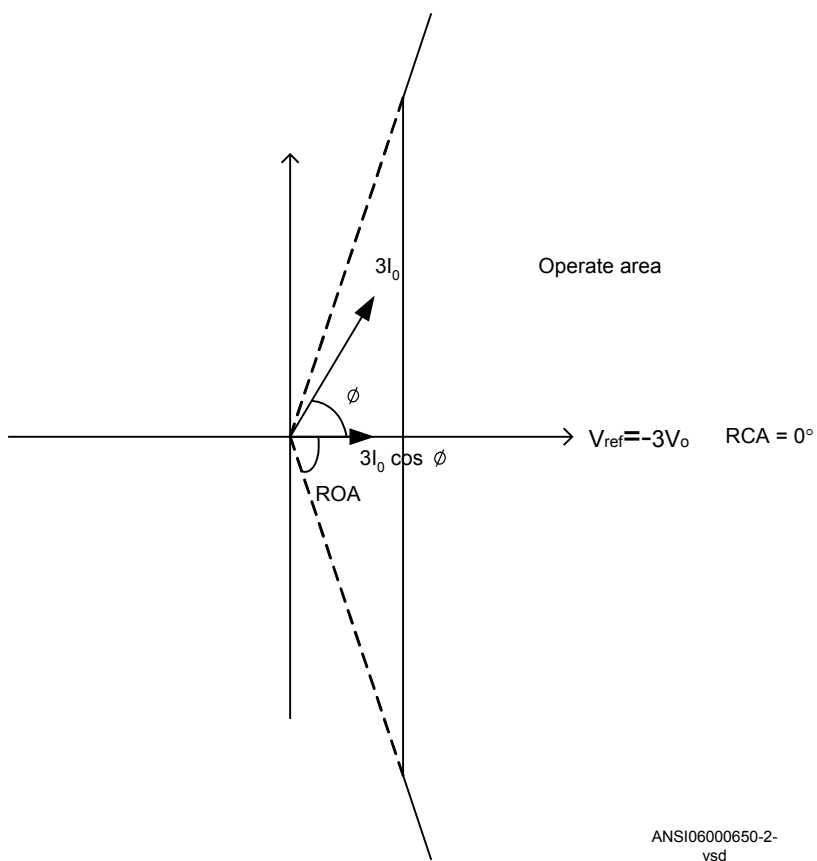
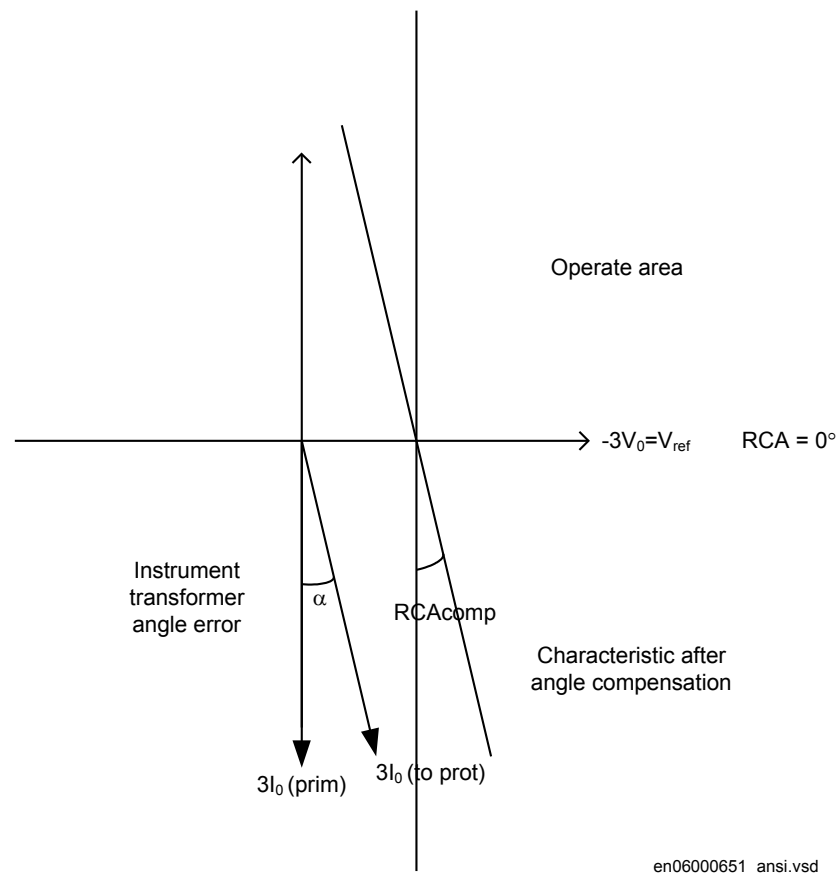

Figure 13: Characteristic with ROADir restriction
Figure 14: Explanation of RCAcomp
Take the set characteristic into consideration, see figure 13 and figure 14.
4. Compare the result with the set value. Take the set characteristic into consideration, see figure 13 and figure 14.